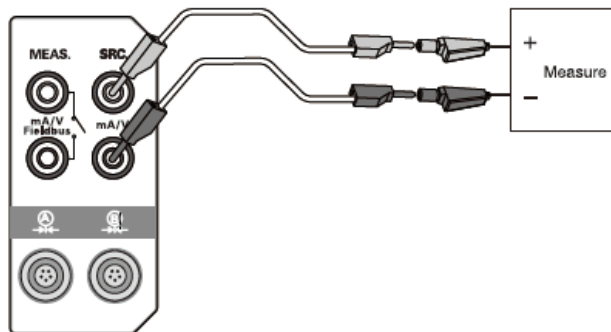

Figure 18 Current output of internal power supply
2. Connection: Connect the electric circuit as shown in Figure 18.